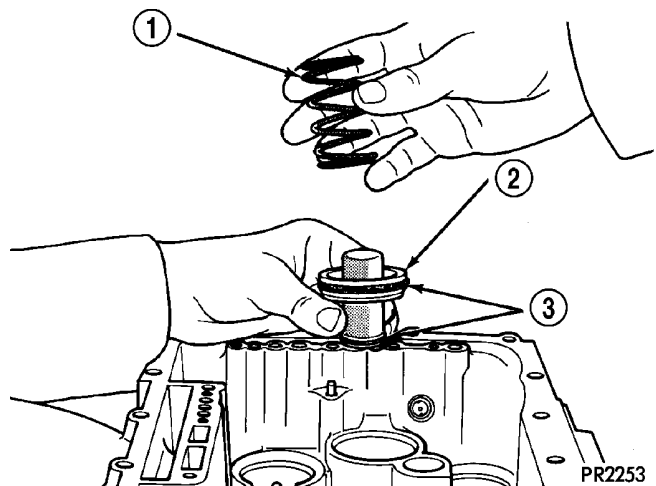

Fig. 69 Accumulator Spring and Piston
(29) Install accumulator piston and spring (Fig. 69).